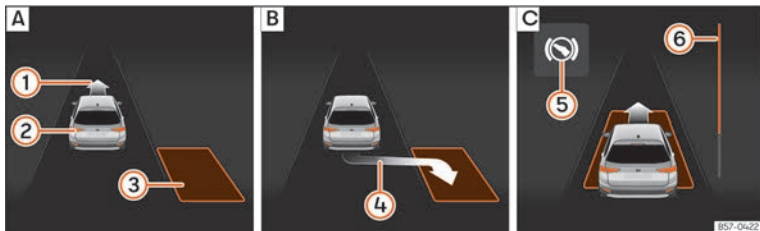
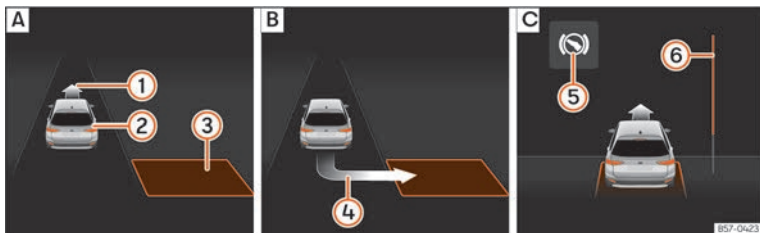

Fig. 187 On the instrument panel display: parallel parking. **[A]** Finding a parking space. **[B]** Parking position. **[C]** Manoeuvring.
Fig. 188 On the instrument panel display: angle parking. **[A]** Finding a parking space. **[B]** Parking position. **[C]** Manoeuvring.
- Look at the display on the instrument panel to see if the space has been detected as “appropriate” and if the correct position for parking has been reached »» Fig. 187 **[B]** or »» Fig. 188 **[B]**. The space is considered
- Reverse until the continuous ParkPilot signal sounds; **OR:** reverse until the indication to move forward appears on the instrument panel display »» Fig. 187 [C] or »» Fig. 188 [C]; **OR:** reverse until the **Park Assist finished** message appears on the instrument panel display. The progress bar [6] indicates the distance to cover »» page 272.
- Move forward until the continuous ParkPilot signal sounds; **OR:** move forward until the reverse indication appears on the instrument panel display. The Park Assist system steers the vehicle forward and back until it centres it in the space »» Fig. 187 [C] or »» Fig. 188 [C].
»» Fig. 187 [6] and »» Fig. 188 [6] on the screen of the instrument panel displays the relative distance to be covered. The greater the distance, the fuller the progress bar. When driving forward, the content of the progress bar decreases upwards, and when reversing, it decreases downwards.